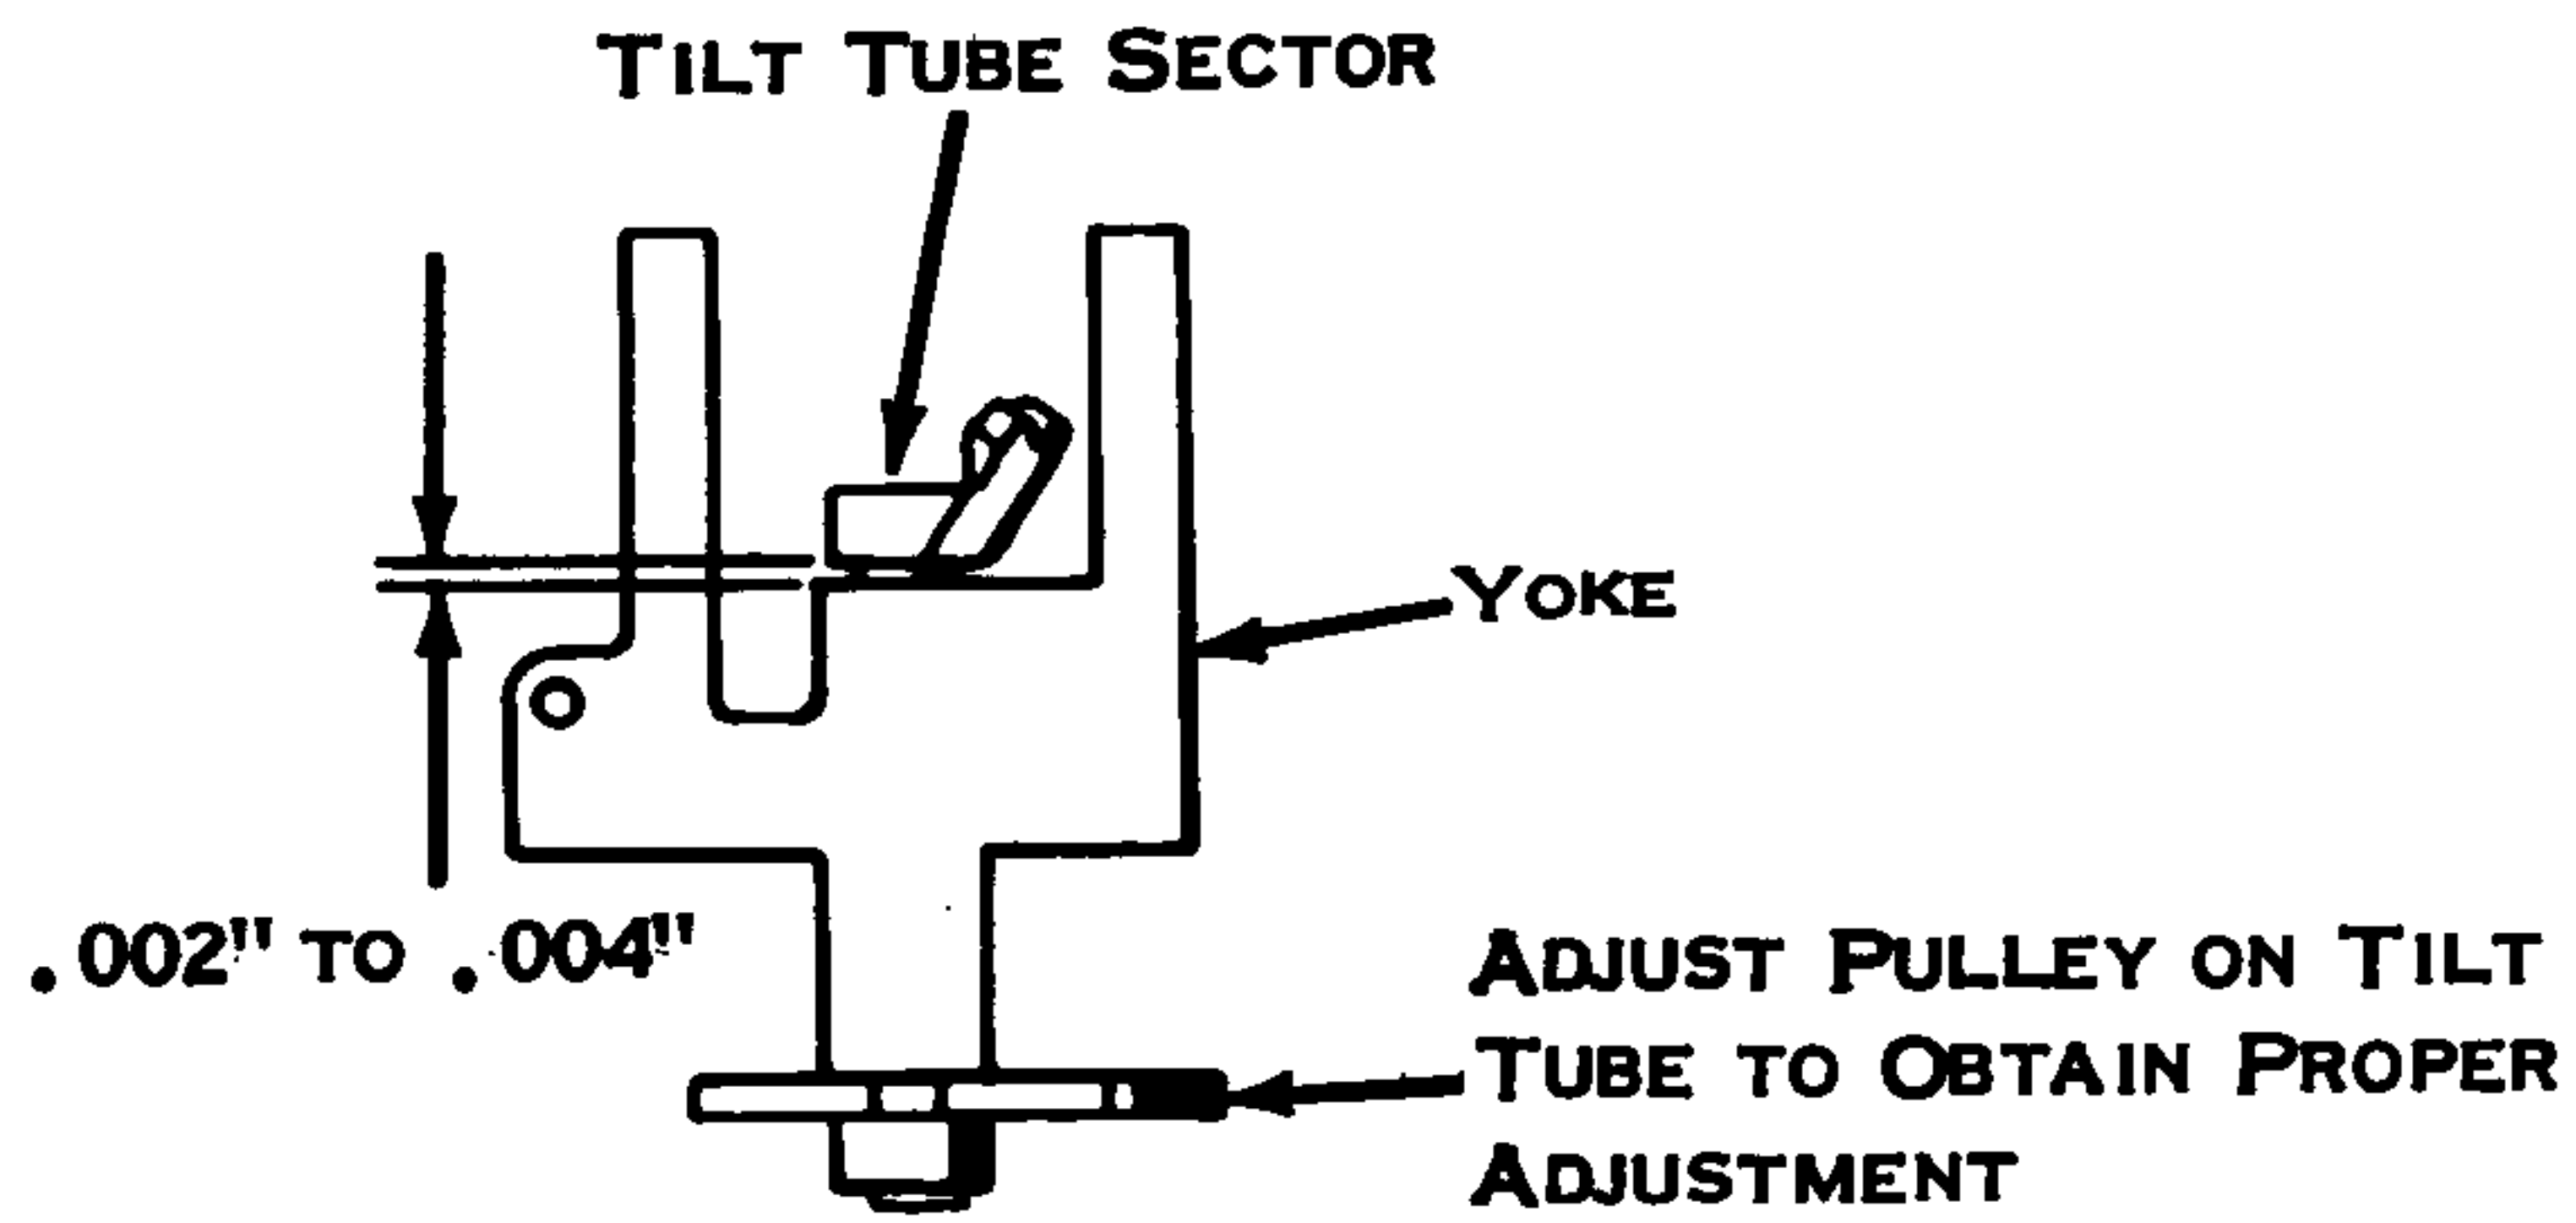

Figure 59. Tilt Tube End Play
1. Tilt Tube End Play Prior To Gearless Tilt (Fig. 59) - The tilt pulley should be adjusted up or down on the tilt tube so that .002" to .004" end play exists in the tilt tube. CAUTION - If, for any reason, the tilt tube is removed, the shims must be replaced.